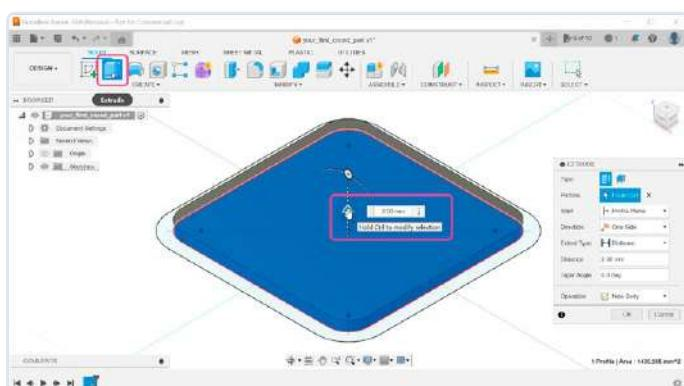

Figure 7: Starting the extrusion!
7) We have sufficient shapes to start extruding them. Close sketch editing by clicking the *Finish Sketch* button, and then select the *Extrude* tool from the toolbar (**Figure 7**). Click the inner rounded rectangle on the sketch and enter a distance of 2 mm.